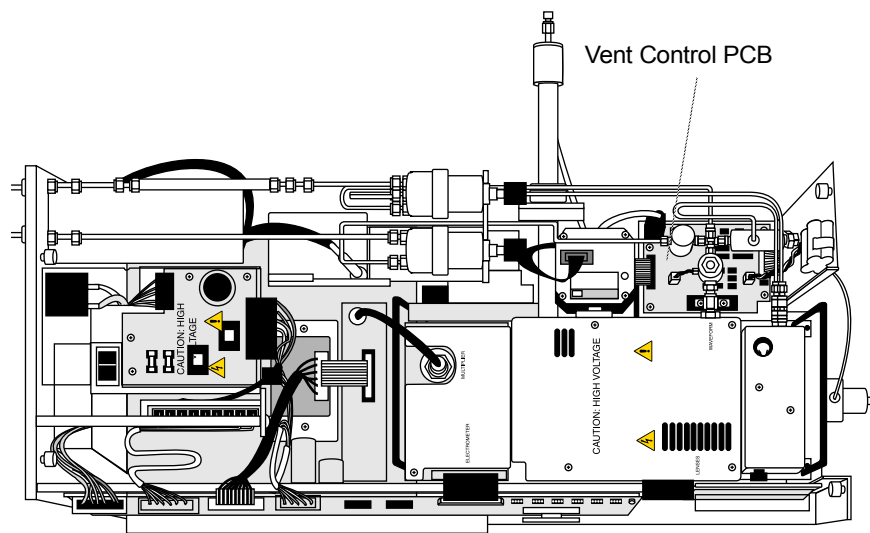

Figure 7-8. GCQ Plus with Top Cover Removed
4. Remove the Vent Control PCB. Figure 7-8 shows the location of the Vent Control PCB.